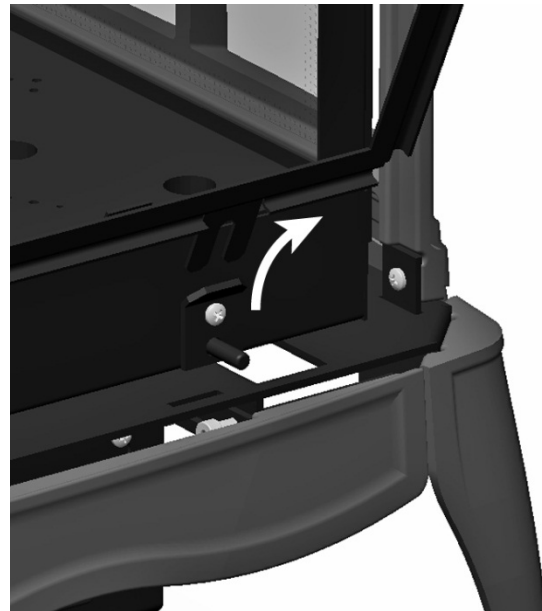

Figure 14 - Lower Mounting Stud/Spring Detail
4. Pull forward and disengage the spring clips securing the top of the glass frame. See Figure 14. Tilt the top of the glass frame outward and lift it off the studs on the bottom – set carefully aside.